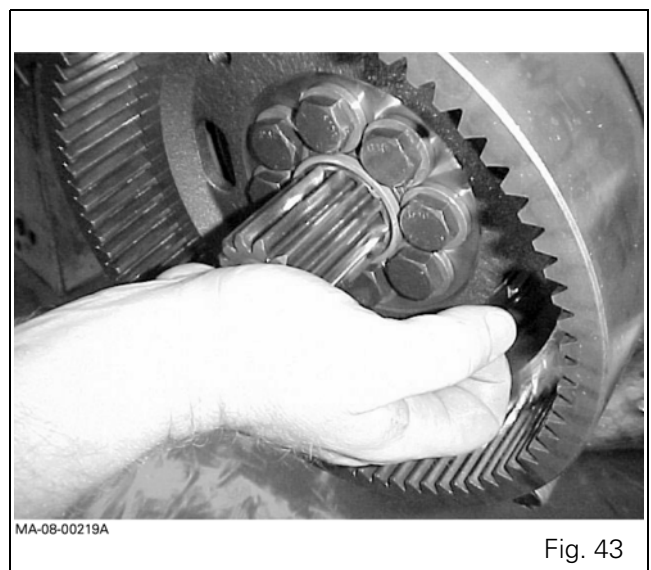

Fig. 43
40. Carefully push the universal joint and ensure that the circlip is correctly positioned in the groove of the washer (Fig. 43).